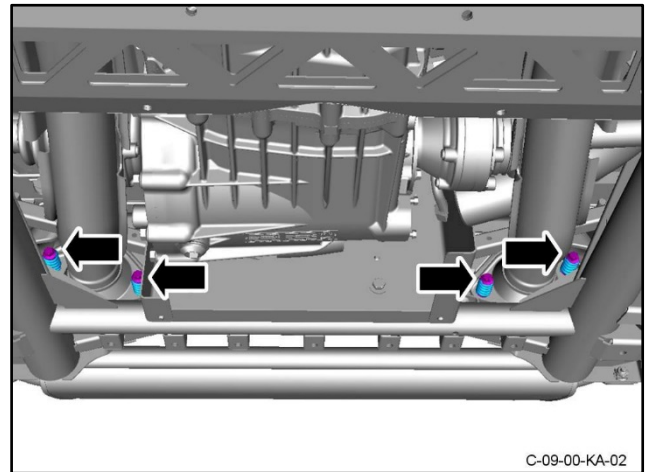

Figure 5
11. Remove the four bolts and collect the four springs that attach the exhaust centre pipe to the muffler and bypass valve assembly (refer to Figure 5).